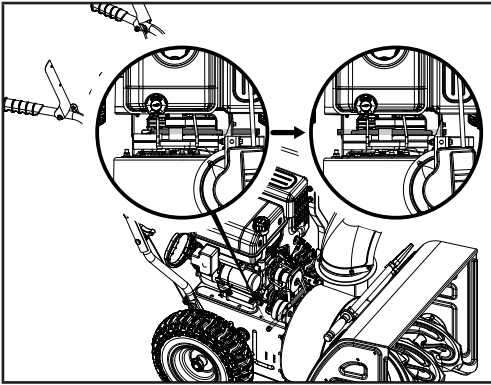

Figure 32
11. Reassemble the support rod by pushing back into place and ensure that it is properly engaged into the friction disc assembly and replace the washer and clip (Fig. 32).